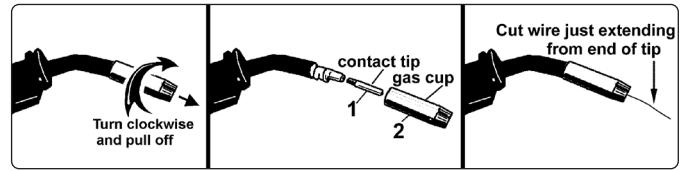

fig.7
- d) Unscrew copper contact tip (right hand thread) to remove (fig.7).
12.4. **CONTACT TIP** The contact tip is a consumable item and must be replaced when the hole becomes enlarged or oval. The contact tip **MUST** be kept free from spatter to ensure an unimpeded flow of gas. Refer to fig.7 and section 7 for removal and replacement.